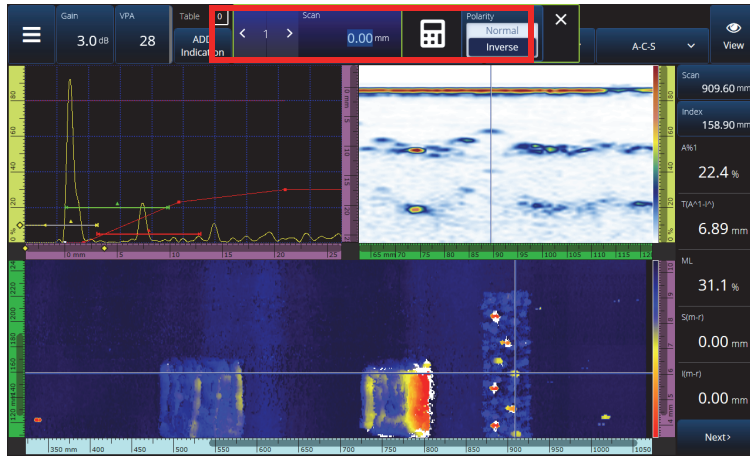

Figure 2-59 Jumping to a specific location by typing a number with the numerical keypad
- c) Press either the **Scan** or **Index** control. A menu opens that enables you to type a new value using the numerical keypad or to invert the encoder polarity (see Figure 2-59 on page 107).